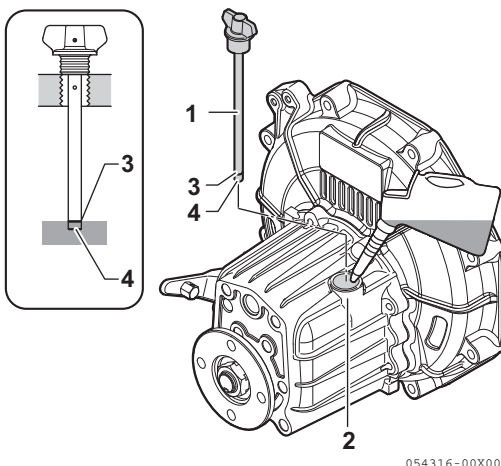

Figure 7
1. Make sure the engine is off. Make sure the engine is as level as possible and wipe area clean around the marine gear filler port (**Figure 7, (2)**).
3. Remove the dipstick (**Figure 7, (1)**) and wipe with a clean cloth.
4. Re- insert the dipstick without screw in, please see illustration (**Figure 7**).
5. Remove the dipstick. The oil level should be between the upper (**Figure 7, (3)**) and lower (**Figure 7, (4)**) lines on the dipstick.
3. Fill with oil to the upper limit on the dipstick (**Figure 7, (3)**). See Marine Gear Oil Specifications on page 29.